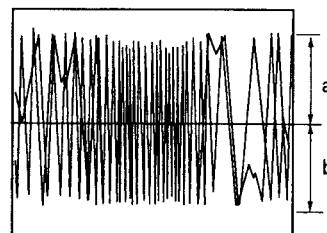

Fig.3 Maximum TRK error.
6. Turn the screwdriver counterclockwise until the TRK waveform's amplitude reaches the first maximum from the null point. (See Fig. 3.)
1. Adjust VR602 so that the TRK error waveform amplitude's positive and negative level become equal. (See Fig. 3.)